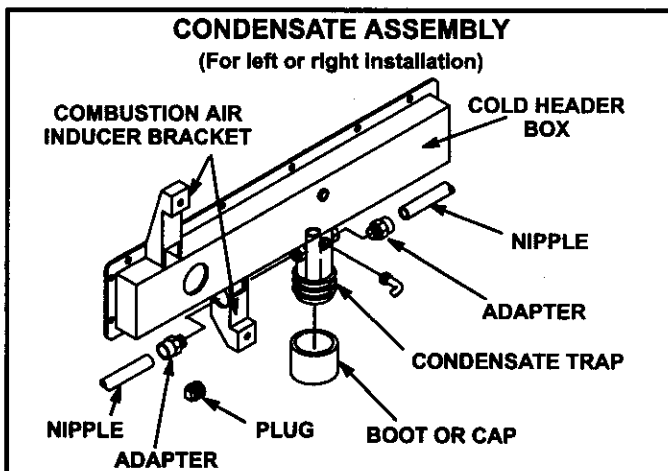

FIGURE 21
- 2 - Connect a 1/2 inch (13mm) plastic pipe plug (provided) in the unused end of the condensate trap. Install plug so that it is sealed water tight yet able to be removed. Do not permanently seal the connection. Teflon tape is recommended to seal joint. See figure 21.